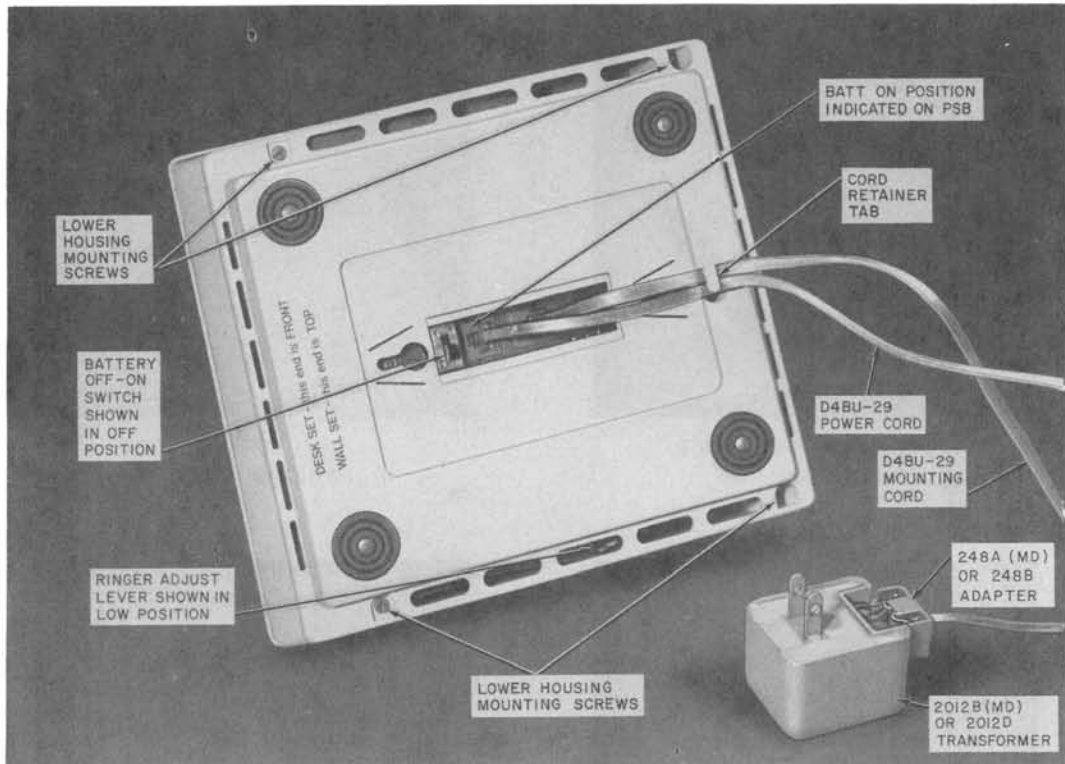

Fig. 2—2960A01M Telephone Set, Bottom View
- Battery OFF-ON switch (located on the bottom of the set, Fig. 2), should be in the OFF position when set is not in service.
- (1) Adapter, 248A (MD) or 248B (to connect D4BU modular mounting cord to 2012B (MD) or 2012D transformer) Fig. 2.
- 3.04** Attach 248A or 248B adapter to 2012B or 2012D transformer (Fig. 2) and plug into 110-117 volt ac outlet not controlled by a switch (continuous ac power is required). Plug one end of the D4BU-29 power cord (maximum 14 feet) into the power jack on the bottom of the set (Fig. 15D) and the other end into the 248A or B adapter.
switch arm (now visible in the bottom view of the set, Fig. 2) to the ON position.
Note: The switch ON position is indicated on the bottom of the printed wiring board, (Fig. 2) and if switch is not placed in ON position the set will not record or automatically dial.
Note: Dress all cords under retainer tab at bottom rear of housing, Fig. 2.